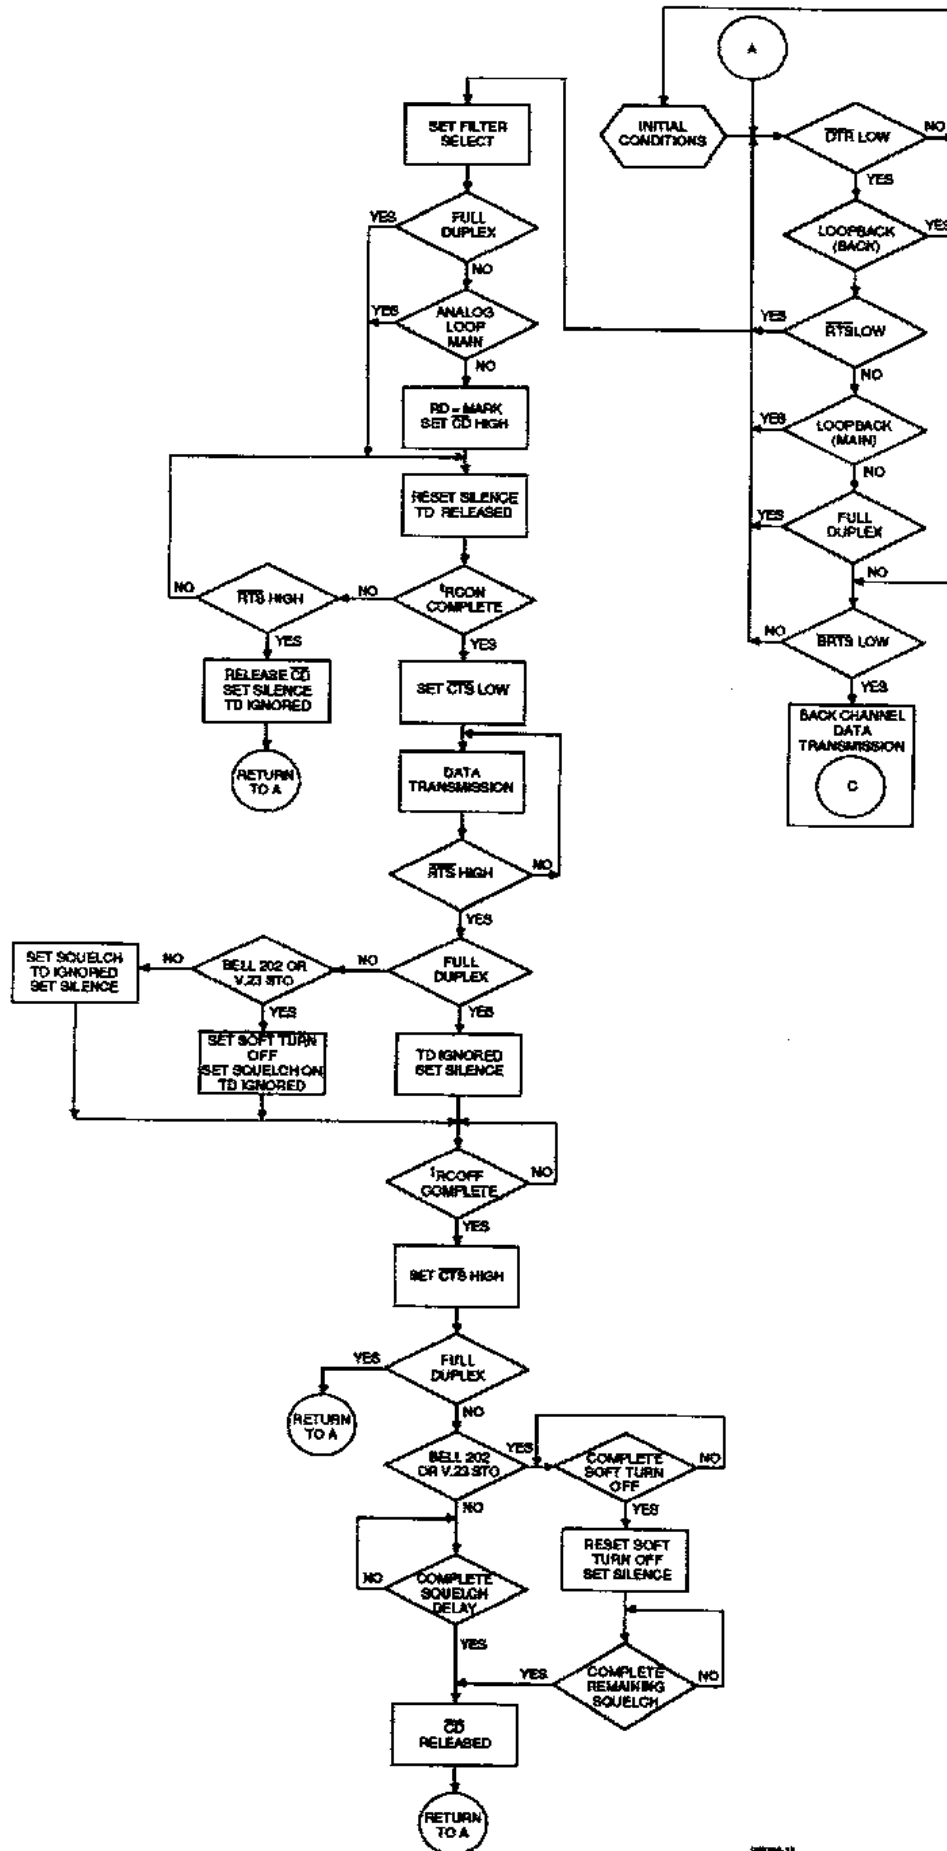
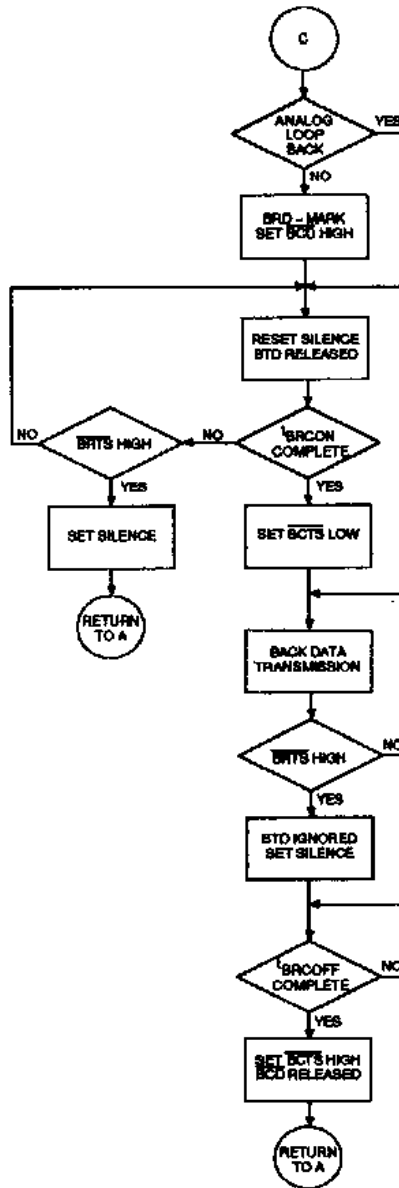

Figure 8a. Transmit Main Channel State Diagram
Figure 8b. Transmit Back Channel State Diagram
Following call establishment, full-duplex data transmission can be started by either the called or calling modem. If the connection has been established and the modem is looping through point A in Figure 8a, it no longer matters which is the called and which is the calling modem. Data transmission is initiated by setting REQUEST TO SEND (RTS) LOW. At this time the TRANSMITTED DATA (TD) input will be released and a modulated carrier can appear at the TRANSMITTED CARRIER (TC) output. Following a delay, t_{RCON} , CLEAR TO SEND (CTS) changes to LOW. At this time, data may be transmitted through TD. It is common protocol for the user to always present a Mark at TD before RTS is asserted and during the t_{RCON} delay.
Data transmission continues until RTS is set HIGH. Following a short delay, t_{RCOFF} , CTS changes to HIGH. As soon as RTS goes HIGH, TD is ignored and TC is set to 0.0 Volts (silence). After CTS changes to HIGH, the state machine returns to point A in Figure 8a.
When a half-duplex mode is selected (202 or V.23), data transmission can be either on the main channel at 1200/600 bps or on the back channel at 5/75/150 bps. In normal half-duplex operation a single modem is either transmitting on the main and receiving on the back channel or vice-versa. In the Am79101, control of the transmitter and receiver filters to the proper channel is performed by RTS. When RTS is asserted, the transmitter filters and synthesizer are set to transmit on the main channel; the receiver filters are set to receive on the back channel. Therefore, whenever RTS is LOW, BRTS should not be asserted since the transmitter cannot be used for the back channel. When RTS is HIGH and a half-duplex mode is selected, the transmitter filters and synthesizer are set to the back channel; the receiver filters are set to the main channel. If RTS and BRTS are asserted simultaneously, RTS will take precedence. However, if BRTS is asserted before RTS and the the back channel data transmission sequence has been entered (Figure 8b), RTS will be ignored until BRTS is set HIGH.
The state machine sequences for main and back channel transmission differ slightly and are depicted in Figures 8a and 8b. Assume the state machine is idling through point A in Figure 8a.
This transmission sequence is entered if a 202 or V.23 mode is selected and RTS is asserted. Since the receiver is now forced to the back channel the RECEIVED DATA (RD) signal is clamped to a Mark, and the CARRIER DETECT (CD) signal is clamped HIGH. The TRANSMITTED DATA (TD) input is released and a carrier appears at the TRANSMITTED CARRIER (TC) output which follows the Mark/Space applied to TD. RTS going LOW initiates a delay, t_{RCON} , at the end of which the CLEAR TO SEND (CTS) output goes LOW. When CTS goes LOW, data may be transmitted through TD. Data transmission continues until RTS is set HIGH. At this time several events are initiated. First a delay, t_{RCOFF} , is initiated at the end of which CTS goes HIGH. TD is ignored as soon as RTS goes HIGH. If a 202 mode or V.23 soft turn-off mode is selected, a soft turn-off tone appears at TC for a time, t_{STO} , followed by silence (0.0 Volts). For both 202 and V.23 modes, a squelch period, t_{SQ} , is initiated when RTS goes HIGH. During this period the CD output is clamped HIGH, forcing the RD output to a Mark condition. The squelch period begins as soon as RTS goes HIGH and thus overlaps both t_{RCOFF} and t_{STO} . At the end of the squelch period, the state machine returns to the idle loop at point A in Figure 8a.
This transmission sequence, shown in Figure 8b, is entered if a 202 or V.23 mode is selected, \overline{RTS} is HIGH, and \overline{BRTS} is asserted. The BACK CARRIER DETECT (BCD) output is forced HIGH and the BACK RECEIVED DATA (BRD) output is clamped to a Mark. The BACK TRANSMITTED DATA (BTD) input is released and a carrier appears at the TC output which follows the Mark/Space applied to BTD. Setting \overline{BRTS} LOW initiates a delay, t_{BRCON} , at the end of which the BACK CLEAR TO SEND (BCTS) output goes LOW. When BCTS goes LOW data may be transmitted through BTD. Data transmission continues until \overline{BRTS} is set HIGH. BTD is immediately ignored and TC is silenced (set to 0.0 Volts). Following a short delay, t_{BRCOFF} , BCTS goes HIGH. The signals BCD and BRD are released and the state machine returns to idle at point A of Figure 8a. In 202 5 bps back channel mode, BTD